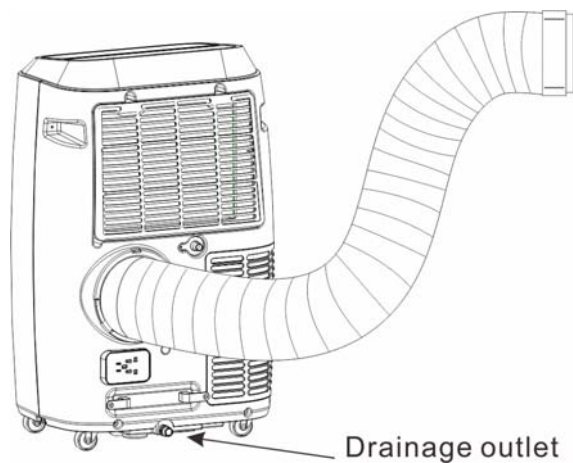

Fig.6
- If water splash motor is damaged, continuous drainage can be used. To connect the drain hose to the bottom drainage outlet (Fig.6), the unit can also work well.